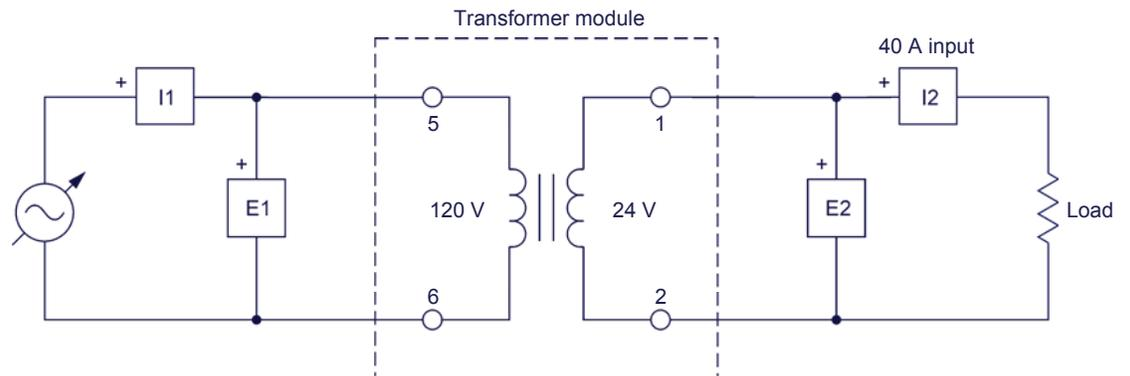

Figure 9. 120 VA step-down transformer connected to the low-resistance load available in the *Wind Turbine Generator/Controller* module.
- 32.** Set-up the 120 VA step-down transformer shown in Figure 9. Do not connect the resistive load, i.e., the load resistors of the *Wind Turbine Generator/Controller* module, to the circuit for the moment. The load resistance at the transformer secondary is thus infinite.
On the **Wind Turbine Generator/Controller** module, connect all three 15 Ω load resistors in parallel. Then, connect the resulting 5 Ω resistive load to the circuit, as shown in Figure 9.